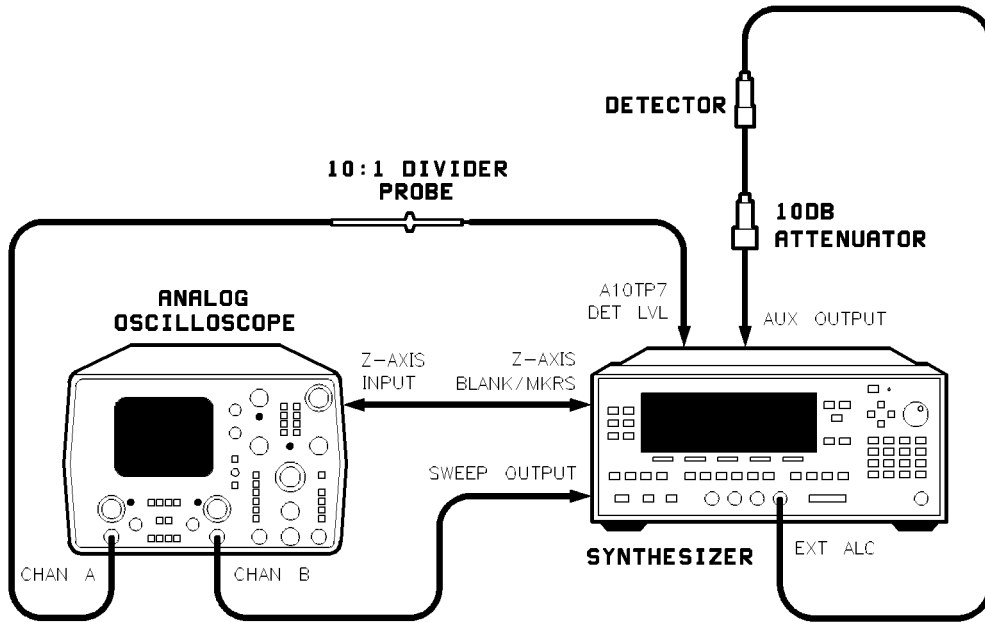

Figure 3-11. Amplifier/Multiplier Adjustments Setup
1. Connect the equipment as shown in Figure 3-11 using an analog oscilloscope with A versus B sweep capability. Power on all the instruments and let them warm up for at least one hour.